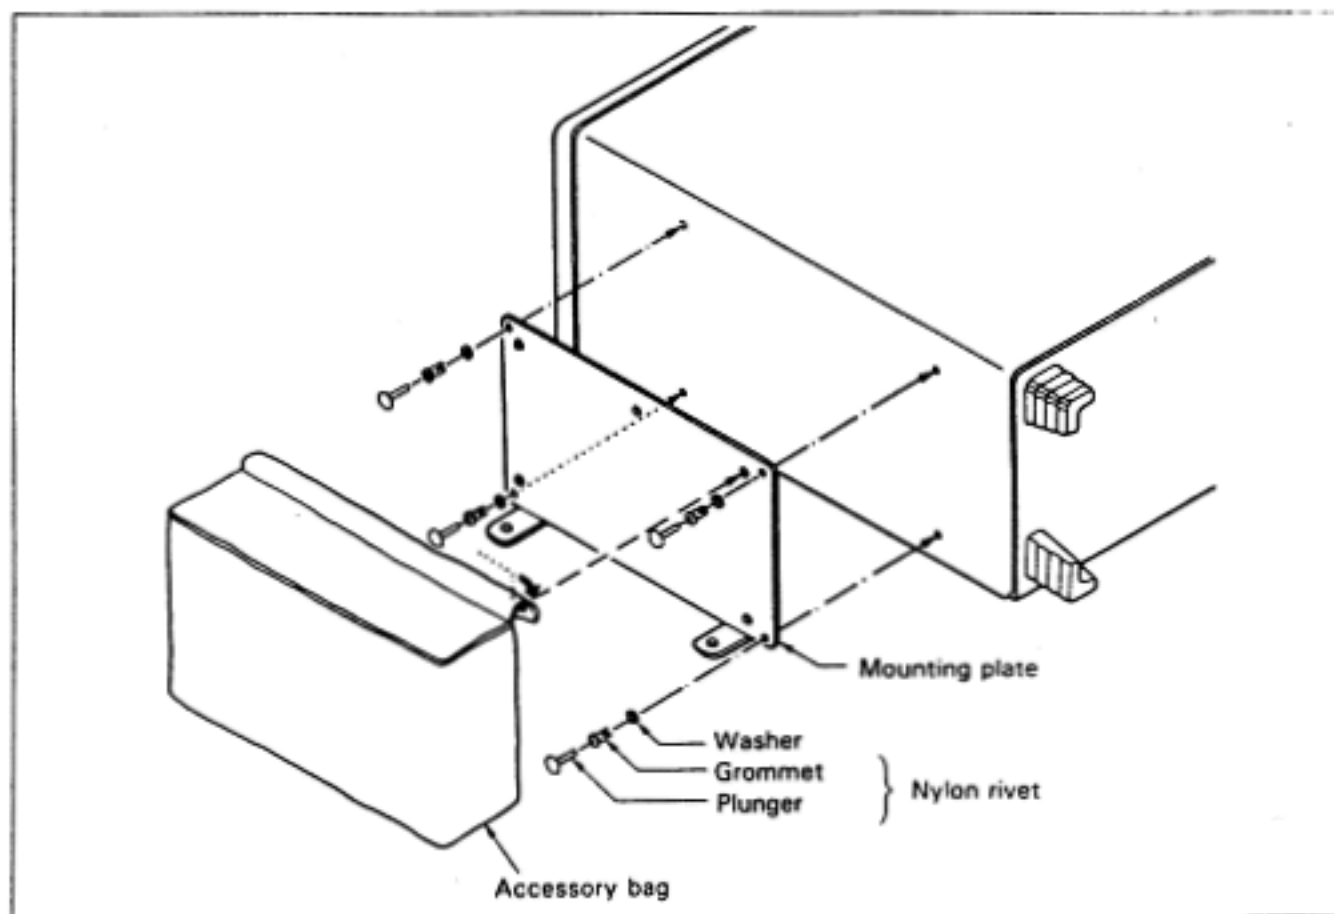

Figure 19. Attaching the Accessory Bag
2. Line up the four holes on the right side (from the front) of the oscilloscope case with the corresponding four holes in the mounting plate. Fix the the mounting plate to the oscilloscope case using the four nylon rivets and washers provided. Be sure that the mounting plate is in the vertical position as shown in Figure 19. Riveting is done by first inserting the grommet into the holes and then the plunger. (When removing just pry the plunger out with a straight edge (–) screwdriver.